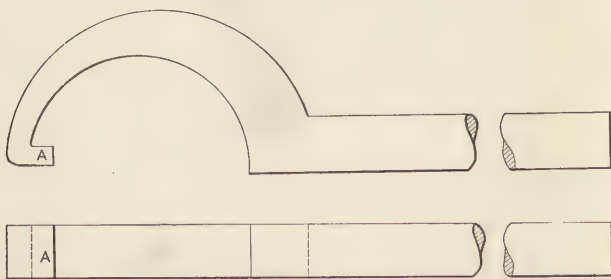

Fig.35
**Spanner Wrench.**—Fig. 35 shows a spanner wrench, a tool that blacksmiths are sometimes called upon to make in different sizes. It must be made the proper shape to give satisfaction to the user. In some cases the part marked *A*, Fig. 35, is required to be round, and in others oblong. A block for bending this kind of a wrench was shown in Fig. 28. This form or block (same as in Fig. 27) can be set in the anvil or swage block by having a square shank *X*. Have a row of keyways cut along one side at *a*, *a*, etc., and a row of different sized holes drilled on the opposite side *b*, *b*, etc. This forms a handy tool for bending a spanner wrench to the proper size in one heat.